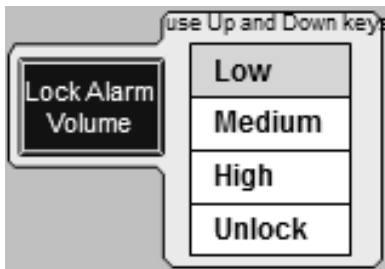

Figure 12
40. Press the Lock Alarm Volume button and the selection menu shown in Figure 12 will appear.